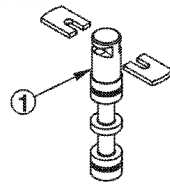

FIG. 1
- Hold shuttle spool (item 1) upright and align slot in detent legs (item 2) with notch on shuttle spool, see Fig. 1.